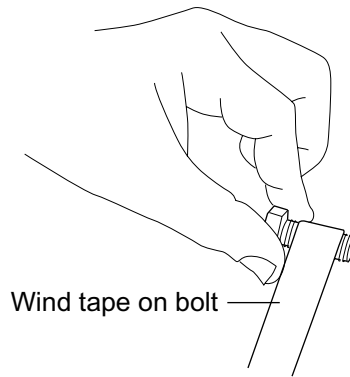

Figure 32: Wrapping Bolt with Tape
- (7) Refer to Figure 32. Wrap electrical tape around the threads of a bolt to form a seal; do not put tape on the first two threads of the bolt.